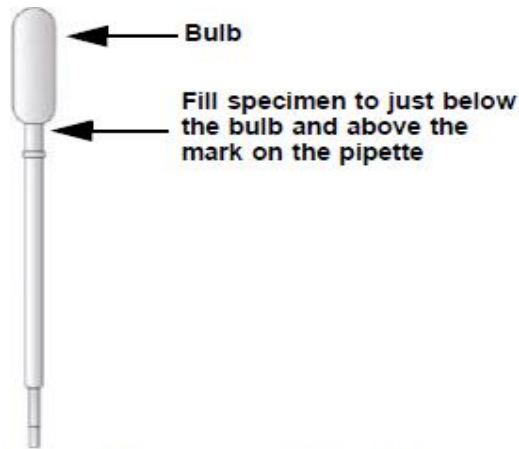

Figure 1. HIV-1 VL Assay Transfer Pipette
• **Option 1:** If using the transfer pipette included in the kit (Figure 1), fill to just below the bulb but above the line to transfer at least 1 mL plasma from the collection tube into the sample chamber of the test cartridge (Figure 2). Do **NOT** pour the specimen into the chamber!